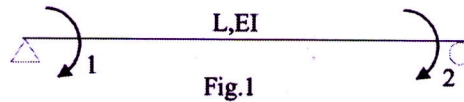

Fig.1
- 1 a) Differentiate between structure and mechanism with suitable examples. (3)
- b) Write short note on the approximate method of analysis of multi storeyed building for vertical load. (3)
- c) Differentiate between portal method and cantilever method of analysis of multi storeyed building. (3)
- d) Derive flexibility matrix for the coordinates shown in Fig.1 (3)